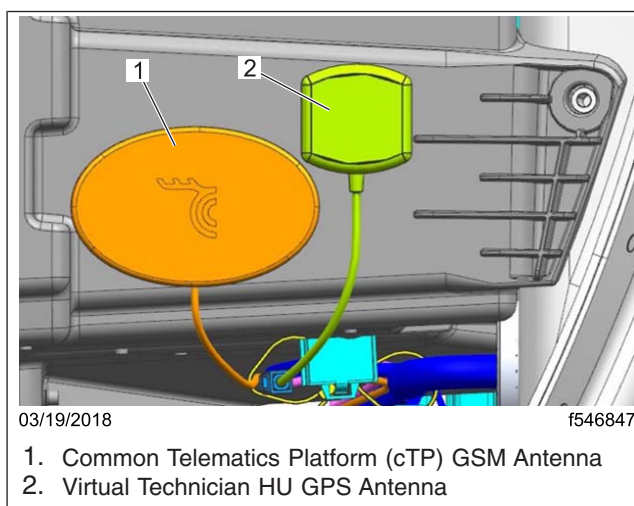

Fig. 3, Top of the Electronics Bay
5. Remove the VTHU GPS antenna from the top of the electronics bay, and discard. See **Fig. 3**.